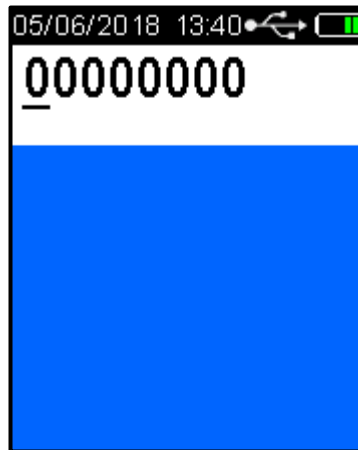

Figure 29 - Password Set-up Code
- With the screen displaying *press to test*, Press the Up and Down buttons simultaneously for approximately five seconds. The menu screen will be displayed during this process and then the password set-up code '00000000' will be displayed (Refer to Figure 29).